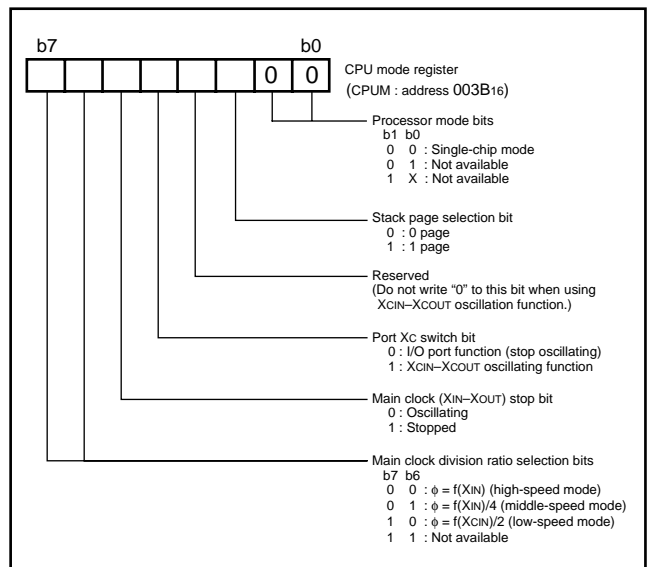

Fig. 100 CPU mode register bit configuration in CPU rewriting mode
Figure 100 shows the CPU mode register bit configuration in the CPU reprogramming mode.
- ① Apply 0 V to the CNVss/VPP pin for reset release.
- ② Set the CPU mode register. (see Figure 100)
- ③ After CPU reprogramming mode control program is transferred to internal RAM, jump to this control program on RAM. (The following operations are controlled by this control program).
- ④ Set "1" to the CPU reprogramming mode select bit.
- ⑤ Apply VPPH to the CNVss/VPP pin.
- ⑥ Wait till CNVss/VPP pin becomes 12 V.
- ⑦ Read the CPU reprogramming mode monitor flag to confirm whether the CPU reprogramming mode is valid.
- ⑧ The operation of the flash memory is executed by software-command-writing to the flash command register.